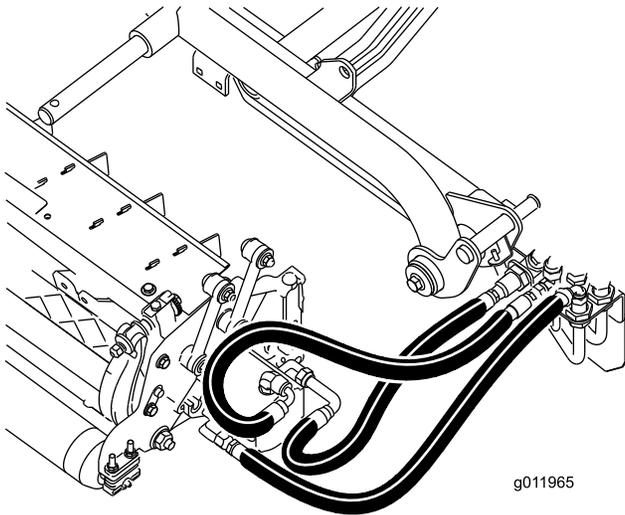

Figure 22
**Important:** Ensure that the hoses are free of twists or sharp bends and that the rear cutting unit hoses are routed as show in (Figure 22). Raise the cutting units and shift them to the left (Model 03171). The rear cutting unit hoses must not contact the traction cable bracket. Reposition the fittings and/or hoses if necessary.